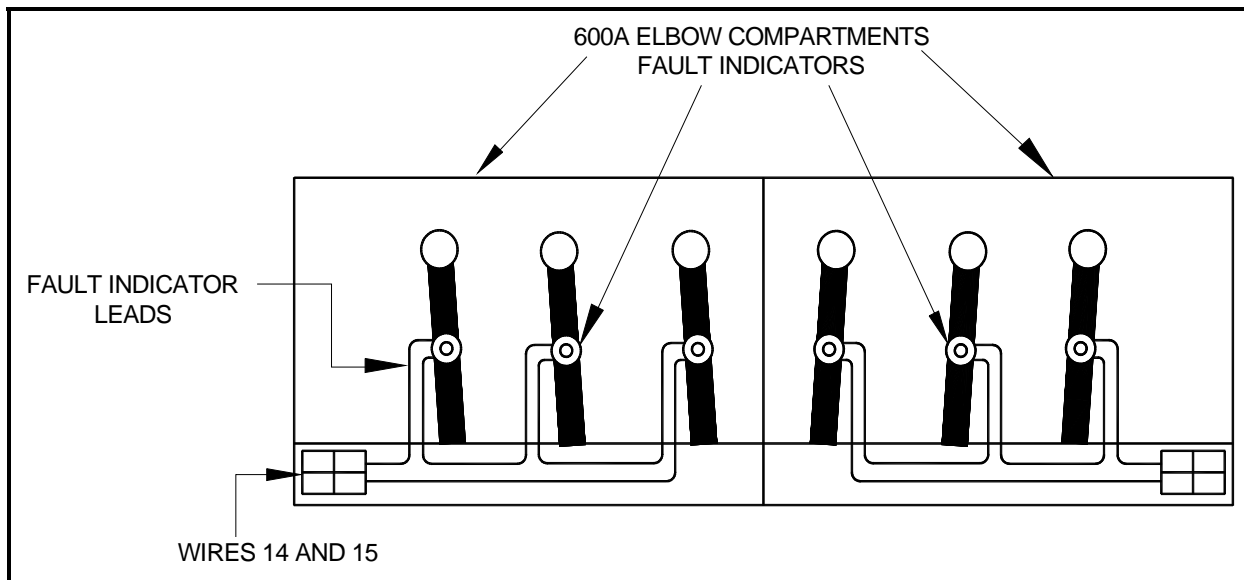

Figure 13 - Fault Indicator Connections
- 2.14 For motor-operated switches with fault indicators, connect the leads from each fault indicator in series, attaching two of the leads from the series loop to wires 14 and 15, as shown in Figure 13. The fault indicator leads must be red for switches having a RTU installed for RadSec control. Refer to the Bill of Materials.